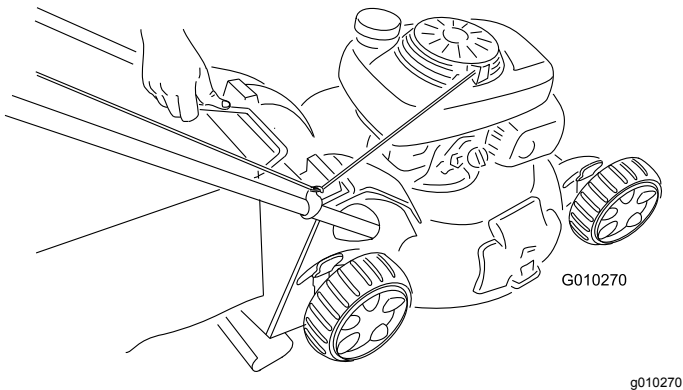

Figure 33
2. Lift the grass-bag handle out from the grooves at the top of the machine, and remove the bag from the machine (Figure 33).